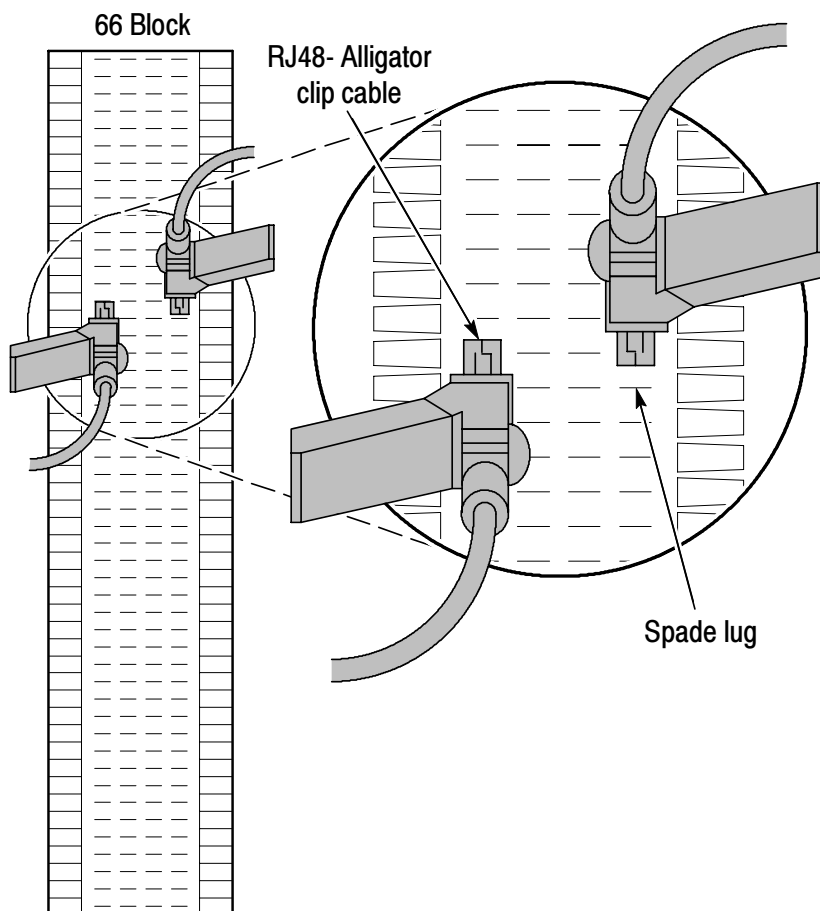

Figure 3-3: Typical connections for bridge monitoring
3. Connect the “Receive” alligator clips to the appropriate points in the service access. See Figure 3-3.